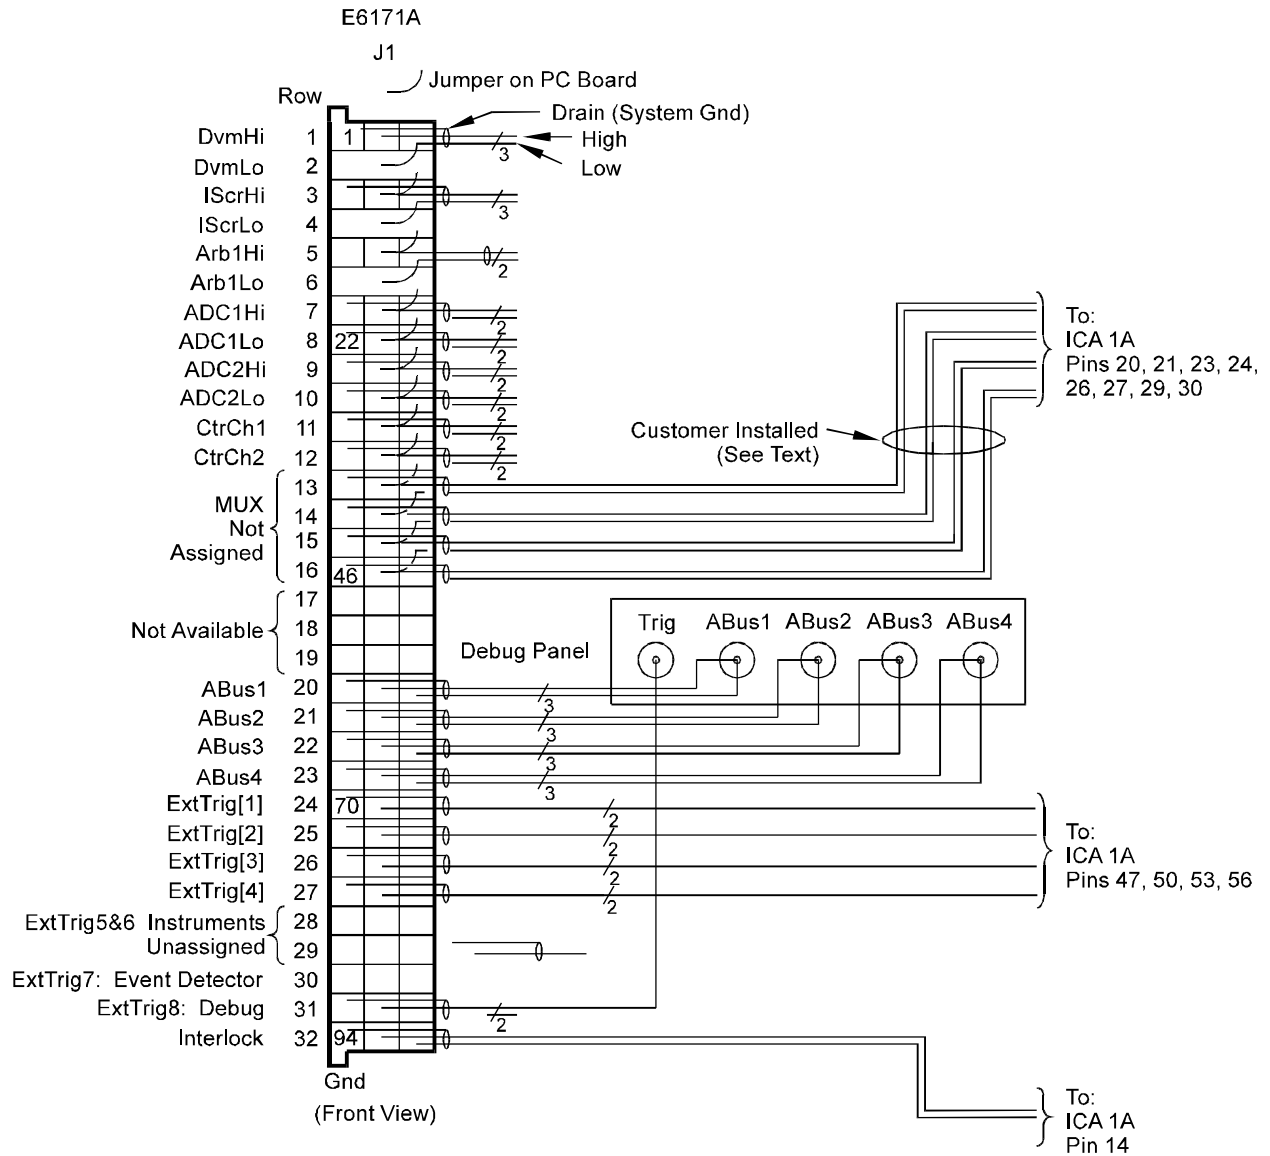
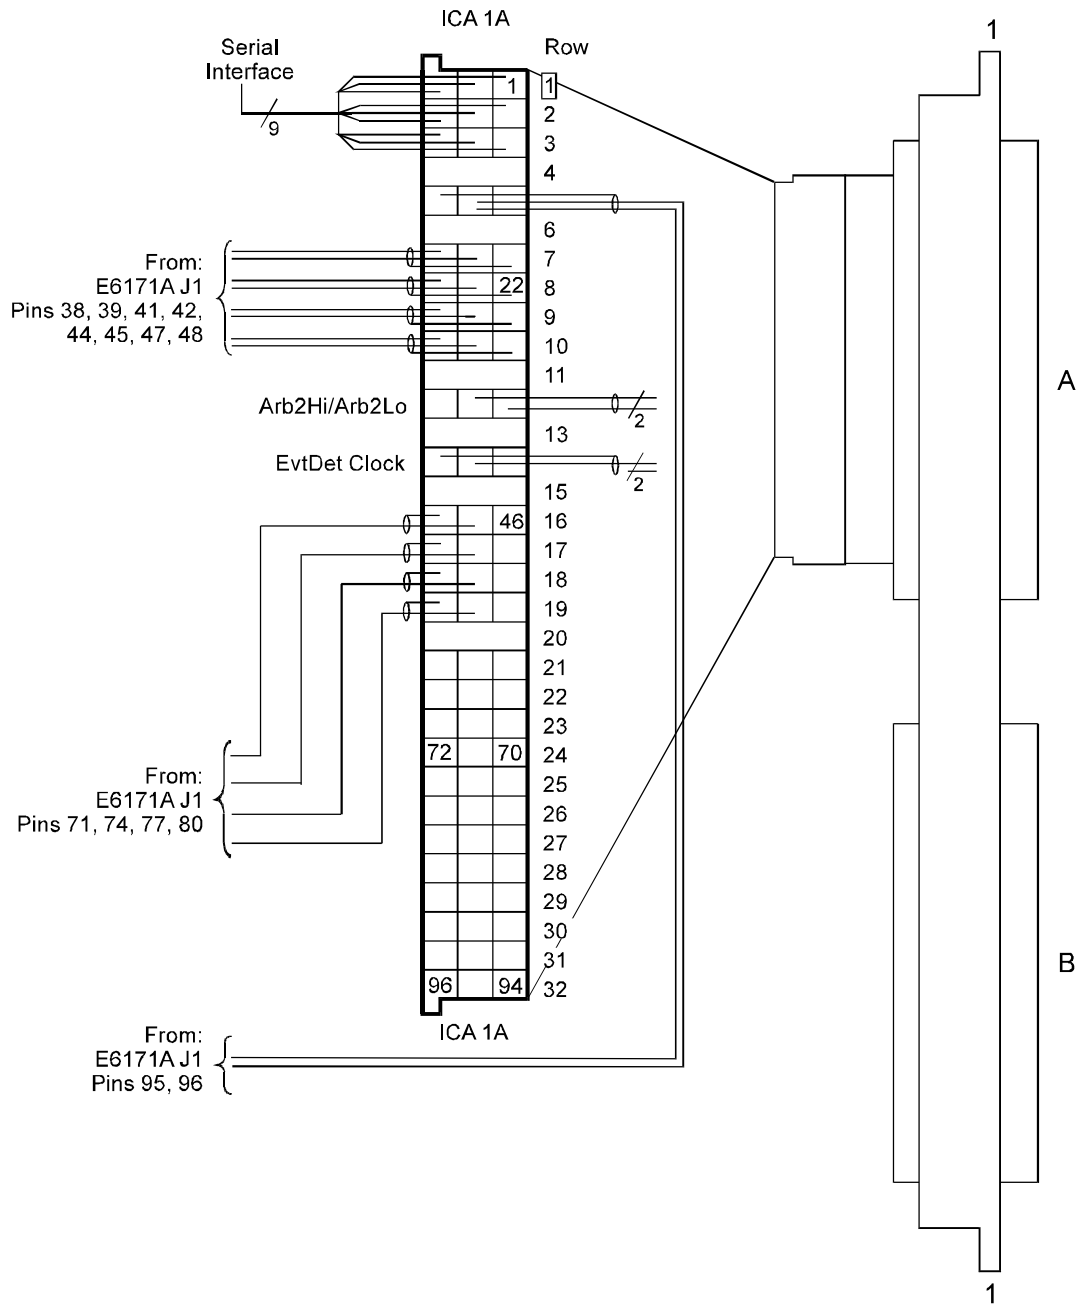
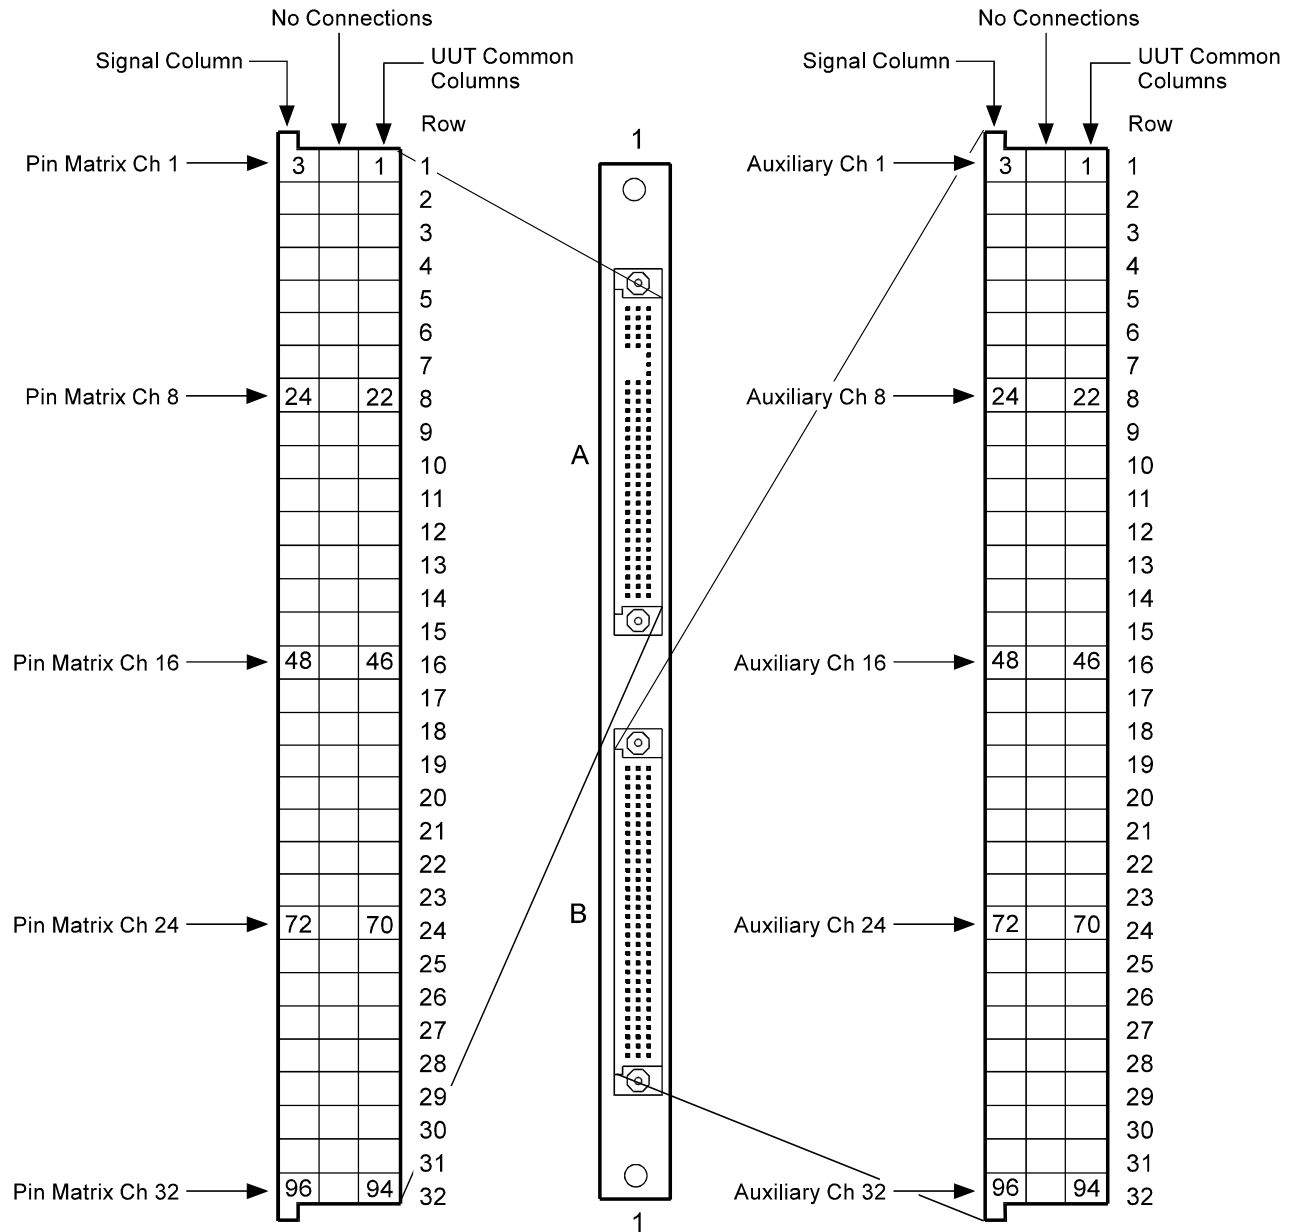
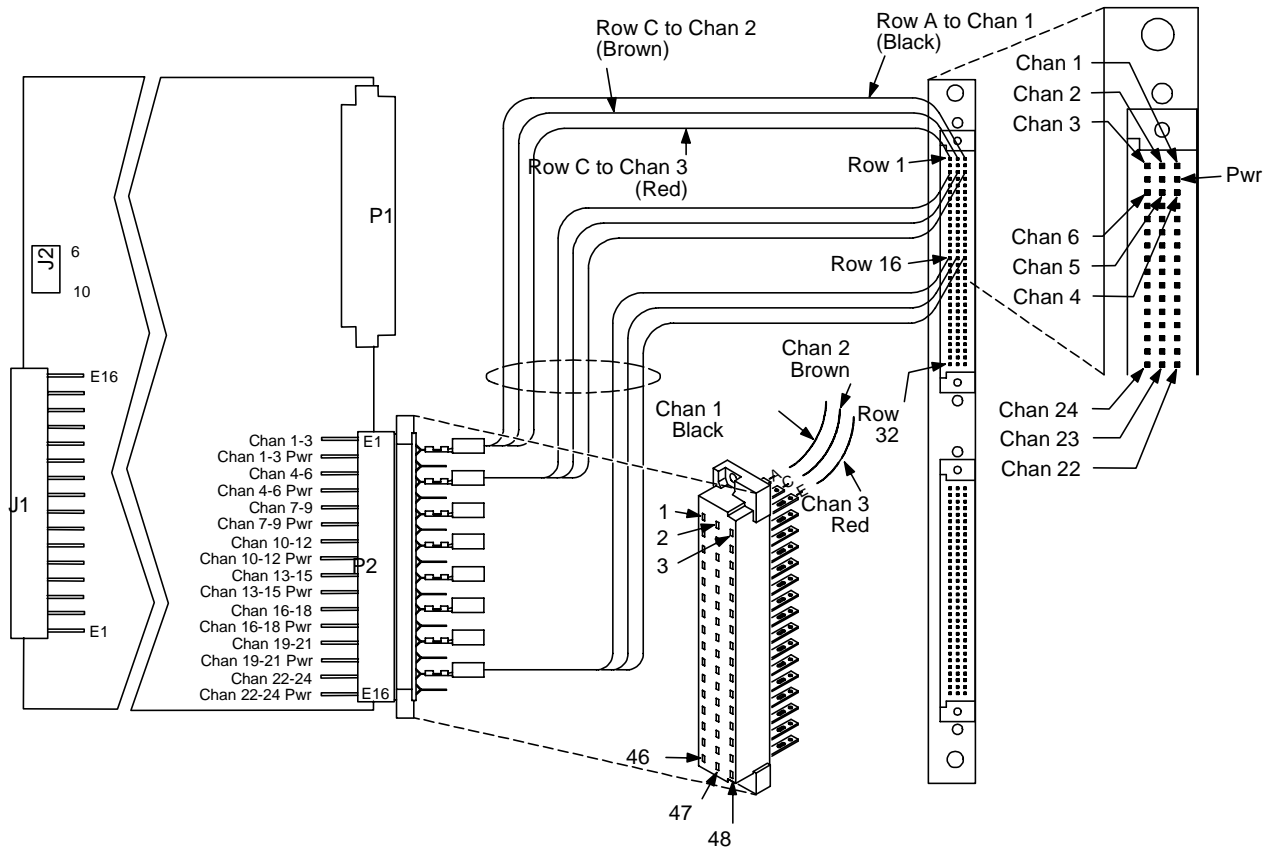

Figure 2-2. ICA Connector 1A Factory Default Connections (continued next page)
Figure 2-3. ICA Connector 1A Factory Default Connections (Cont.)
Figure 2-6. ICA Connectors Slot 2A/ 2B Factory Default Connections
Figure 2-9. Agilent E6177A 24-Channel Load Card Cabling to GP Connector Block
Slot 1 has factory defined pinouts, as shown in Figure 2-2, Figure 2-3, and Figure 2-9. Beginning in slot 2, the top (A) connector block connects to the left side connector (ROW) on the first Agilent E8792/93 32-Pin Matrix module next to the E6171 Measurement Control Module. In slot 2, the bottom (B) connector connects to the right side connector (AUX) on the Agilent E8792/93 32-Pin Matrix module. The connectors and cable numbers on the E8792/93 32-Pin Matrix module are shown in Chapter 4. Slots 3 through n to the right follow the same pattern until all E8792/93 32-Pin Matrix modules are connected to the ICA. Connectors for the load modules (Agilent E6175A, E6176A, and E6177A) are in the center of the ICA.
The default factory connections to the ICA 1A signal block Agilent E3750-22100 96-position black connector termination block are shown in Figure 2-2 and Figure 2-3. See Figure 2-6 for making user connections to the Agilent E3750-22100 Connector Block.
Figure 2-6 shows the ICA Cable Termination for the Agilent E8792/93 32-Pin Matrix Module. It uses an Agilent E3751-61601 cable.
24-Channel cards Start with an Agilent 09420-20074 connector block in slot 13 (or 21) of the mass interconnect. The first 24-channel load card connects to the Agilent 09420-20074 top connector, pins 1 - 48. See Figure 2-9. The second 24-channel load card also connects to the Agilent 09420-20074 top connector but to pins 49 – 96. The third 24-channel load card connects to the Agilent 09420-20074 bottom connector, pins 1 -48; and the fourth 24-channel load card connects to the Agilent 09420-20074 bottom connector, pins 49 -96. The fifth through eighth 24-channel load cards connect to the Agilent 09420-20074 in the mass interconnect slot 12 (or 20); etc.